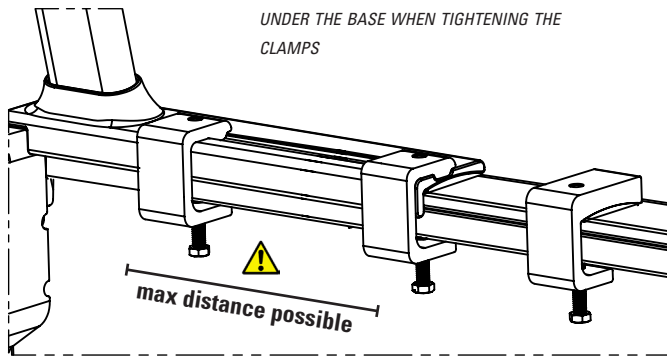

Figure 5.1
4. Place the Rounded Shims (Item 30) on the sidewall of your truck, approximately 4" to 5" behind the upright bases as illustrated (Figure 5.1)